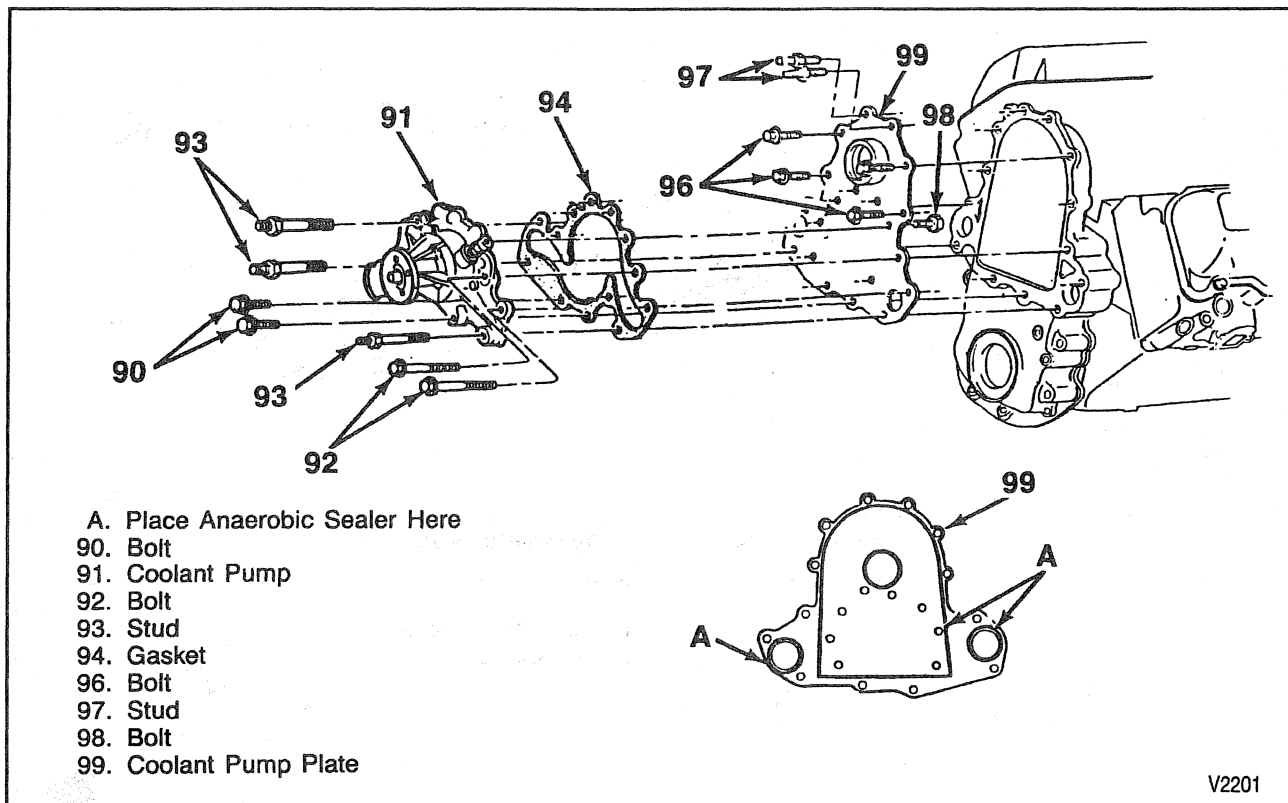

Figure 26—Coolant Pump and Components (Diesel Engines)
Remove or Disconnect (Figure 26)
14. Bolts (90, 92, and 96), studs (93 and 97), coolant pump plate (99), and the coolant pump (91) (figure 26).
15. Bolt (98) from the rear of the coolant pump plate.
16. Coolant pump (91) and gasket (94) from the plate (99).
Install or Connect (Figure 26)